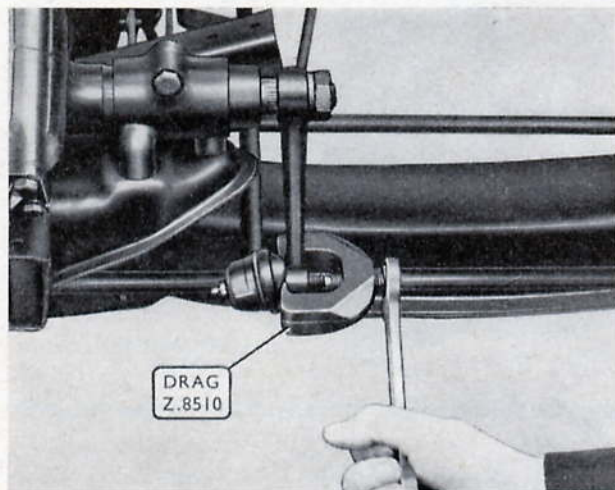

Fig. M.5. Disconnecting the steering connecting rod from the drop arm
2. Using the drag shown in Fig. M.5, disconnect the steering connecting rod from the drop arm.